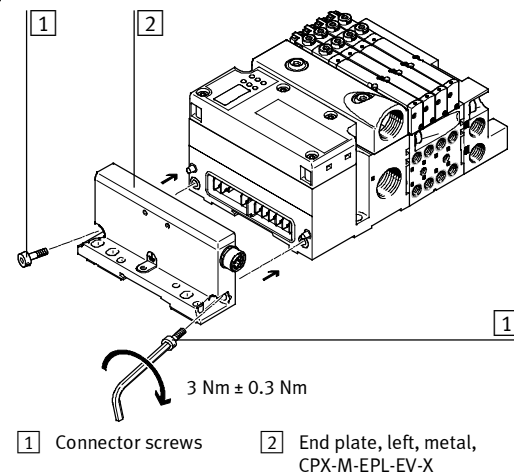

Fig. 13: Mounting the left end plate, metal version
In this case, continue with Step 12. in Section 8.2 (→ Fig. 13).
12. Take the left end plate [2] of the CPX extension and slide it together with the 2nd row (→ Fig. 13).